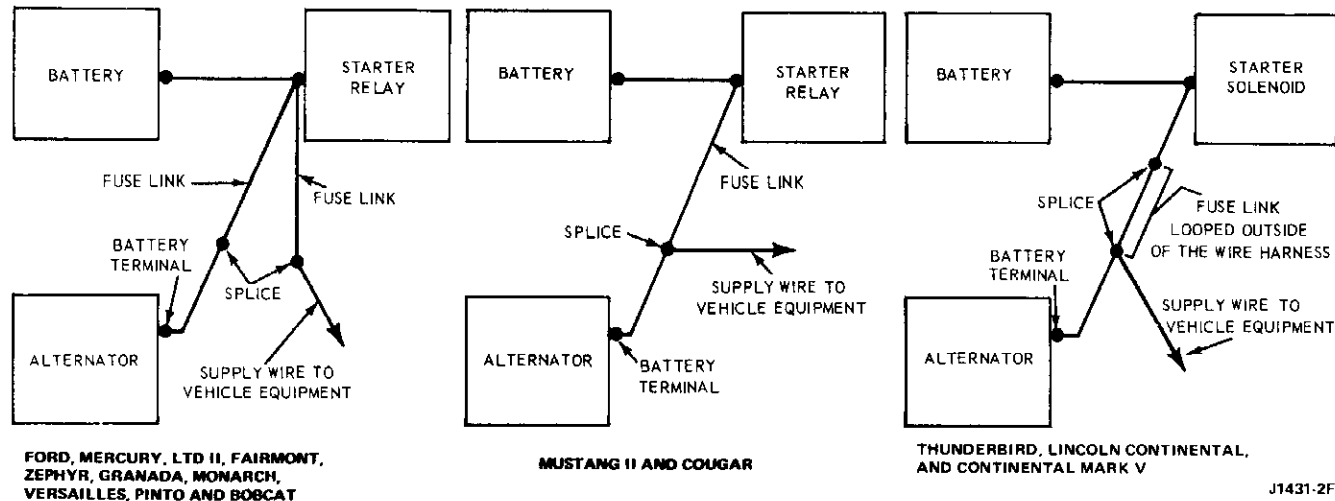

FIG. 1 Fuse Link Installation
are green or black depending on usage. All fuse links have a flag moulded on the wire or on the terminal insulator. Color identification of the flag or connector is Red—18 Ga. wire, Orange—16 Ga. wire, or Green—14 Ga. wire. Fig. 1 shows fuse link installations.
1. Check the fuse link (Fig. 1) located between the starter relay and the alternator. If burned, determine cause, repair system and replace fuse link.